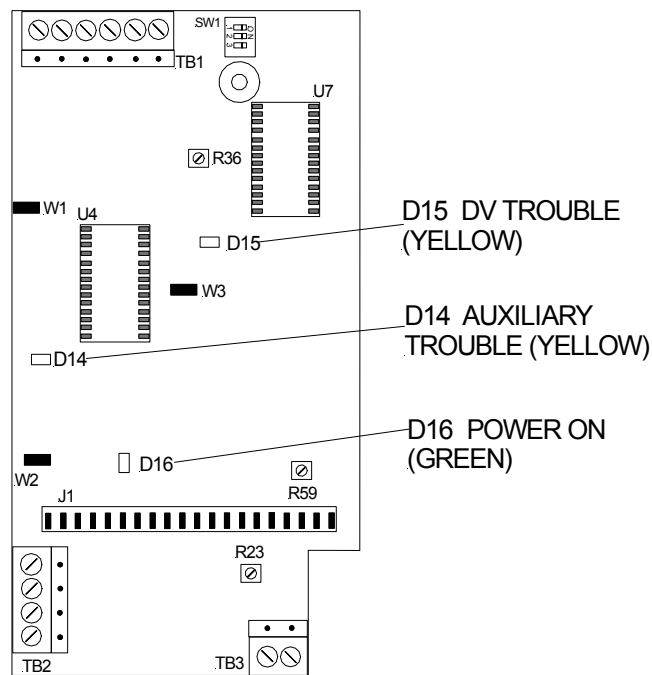

*Figure 8: SP40/2 Setting*
2. Remove jumper W8 on the SP40/2 motherboard. This enables supervision of the SP4-3MEM. See Figure 8.